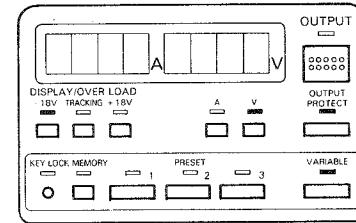

Fig. 8
- 1) Set the LEDs as shown in the Figure 8. (Make sure that the OUTPUT LED is not lit.)
- 3) Press the A KEY (6) and make sure that the A LED lights up.
- 5) Press the OUTPUT KEY (13) to obtain the output value entered from the negative (-) output terminal.